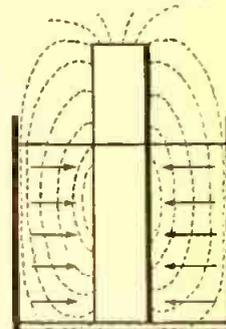
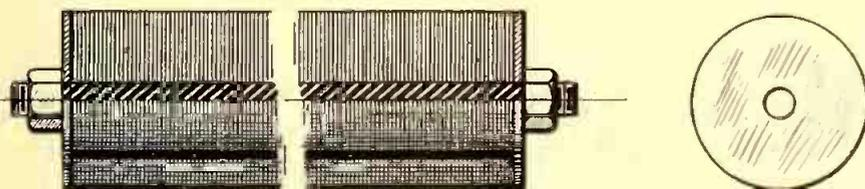

Fig. 2
Fig. 3.
The motion of the water can easily be explained from the diagram, Fig. 2. The current as it crosses from A to C encounters the magnetic lines of force of the magnet in such a way as to produce motion around the latter.
It is made of a great number of thin paper washers about $1\frac{1}{2}$ inches in diameter, painted on one side with aluminum paint and on the other with gold paint. As illustrated in Fig. 3, they are strung on a $\frac{1}{4}$ -inch hard rubber rod, great care being taken to see that the aluminum sides of all the washers face one direction and the gold sides the other. The washers are compressed together between two metal washers, each under a nut screwed over the end of the hard rubber rod.
This tube may be used with connections of either Fig. 2 or Fig. 3. In Fig. 3 the telephone transmission line (A) is separated from the exchange line (B) by a relay consisting of three parts, E, F and G. When a dangerous voltage occurs a brush discharge takes place in the vacuum tube D because the high resistance of E (of about 8,000 ohms to 15,000 ohms) prevents the currents reaching an intensity sufficiently high for the evaporation of the cathode, which would produce an arc. The current passing through E excites the relay and attracts the armature F so that the contact between lines A and B is broken.